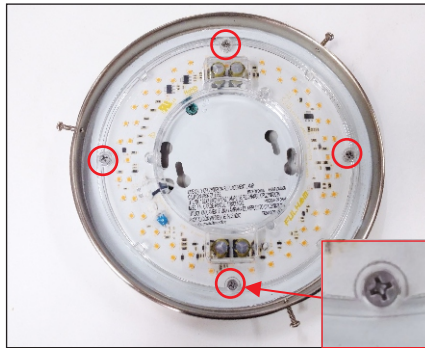

Figure 3
3. Use the supplied self-drilling screws (B) to attach the DirectAC Engine (A) to the luminaire housing. See figure 3.